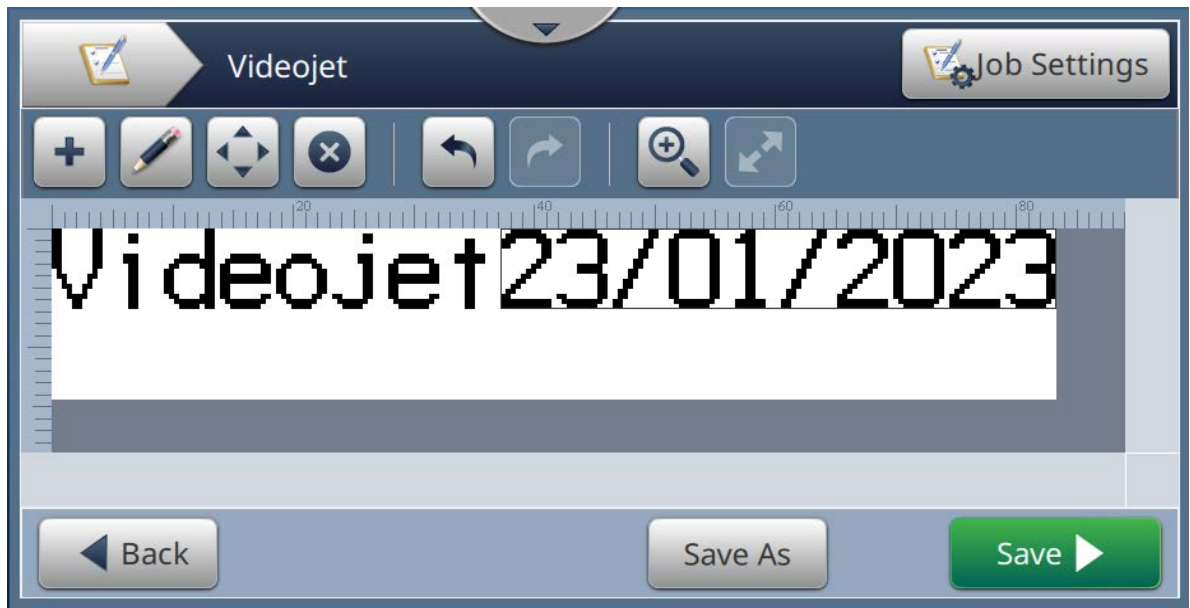

Figure 5-21: Sample Message
In the below section the user is guided to create a new job as shown in Figure 5-21 which consists of the following fields:
10. Select the field and either drag or use the  button to move the field to the location as shown in Figure 5-21 on page 5-40.
22. Select the field and either drag or use the  button to move the field to the location as shown in Figure 5-21 on page 5-40.
30. Select the field and either drag or use the  button to move the field to the location as shown in Figure 5-21 on page 5-40.